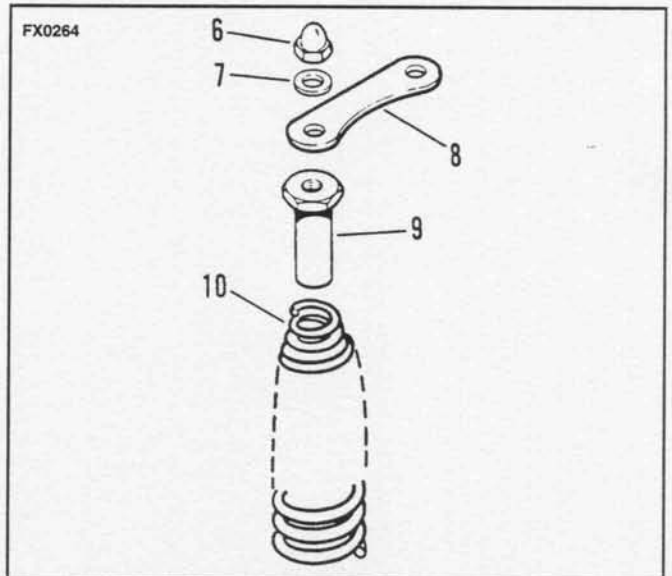

Figure 2-73. Spring Restraints
21. See Figure 2-73. Place upper spring restraints (9) in position. Tighten spring restraints until the spring rods protrude 5/8-3/4 in. (16-19 mm) from the tops of the spring restraints.